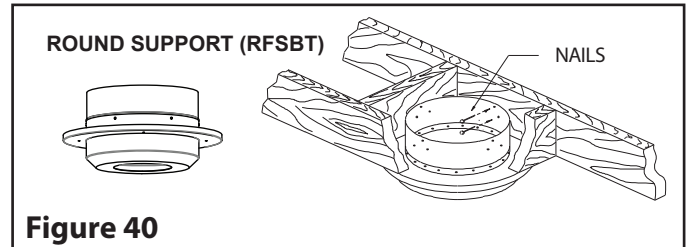

Figure 40
Step 2. From below push the support into the framed hole. Nail the support to the framed box using (12) 3" spiral nails or #8 x 1 1/2" wood screws (see **Figure 40**).